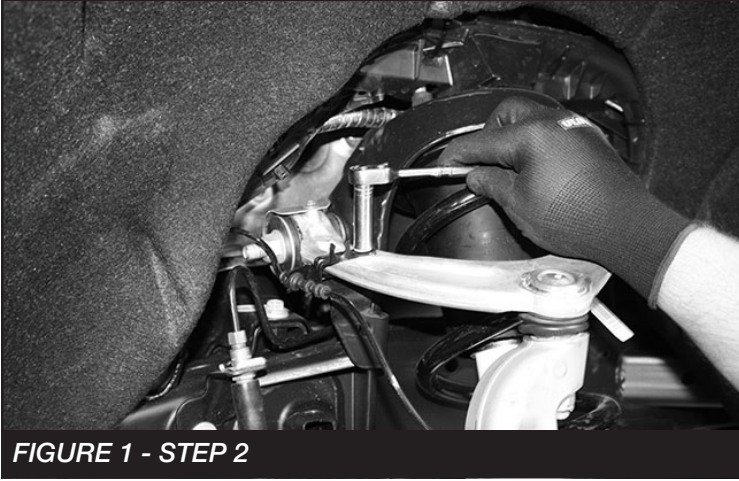

FIGURE 1 - STEP 2
2. Disconnect the ABS wire bracket from the upper control arm. **SEE FIGURE 1**